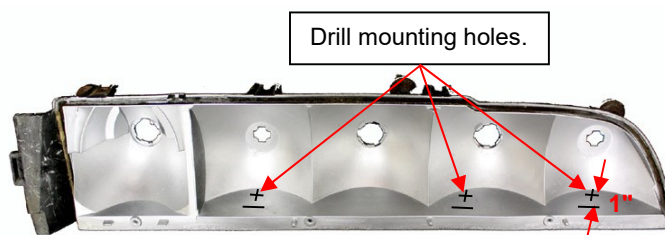

Figure 3
- 2.2. Measure back exactly 1" from the center of each mounting tab line and mark a position to drill mounting holes. (See Figure 3) Drill 3 - 1/8" diameter mounting holes into housing assemblies at the marked hole positions.